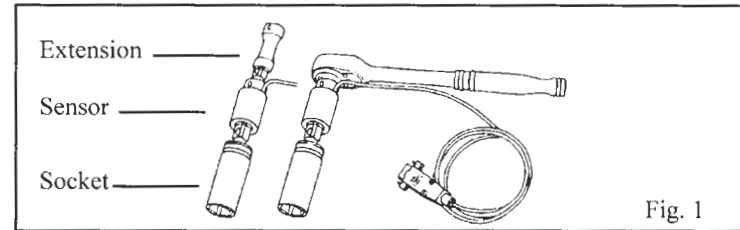

Fig. 1
**Caution:** For best accuracy sockets should be attached directly to the sensor's male drive. If an extension is used, the extension should be installed between the sensor and the wrench — not between the sensor and the socket. See Fig. 1